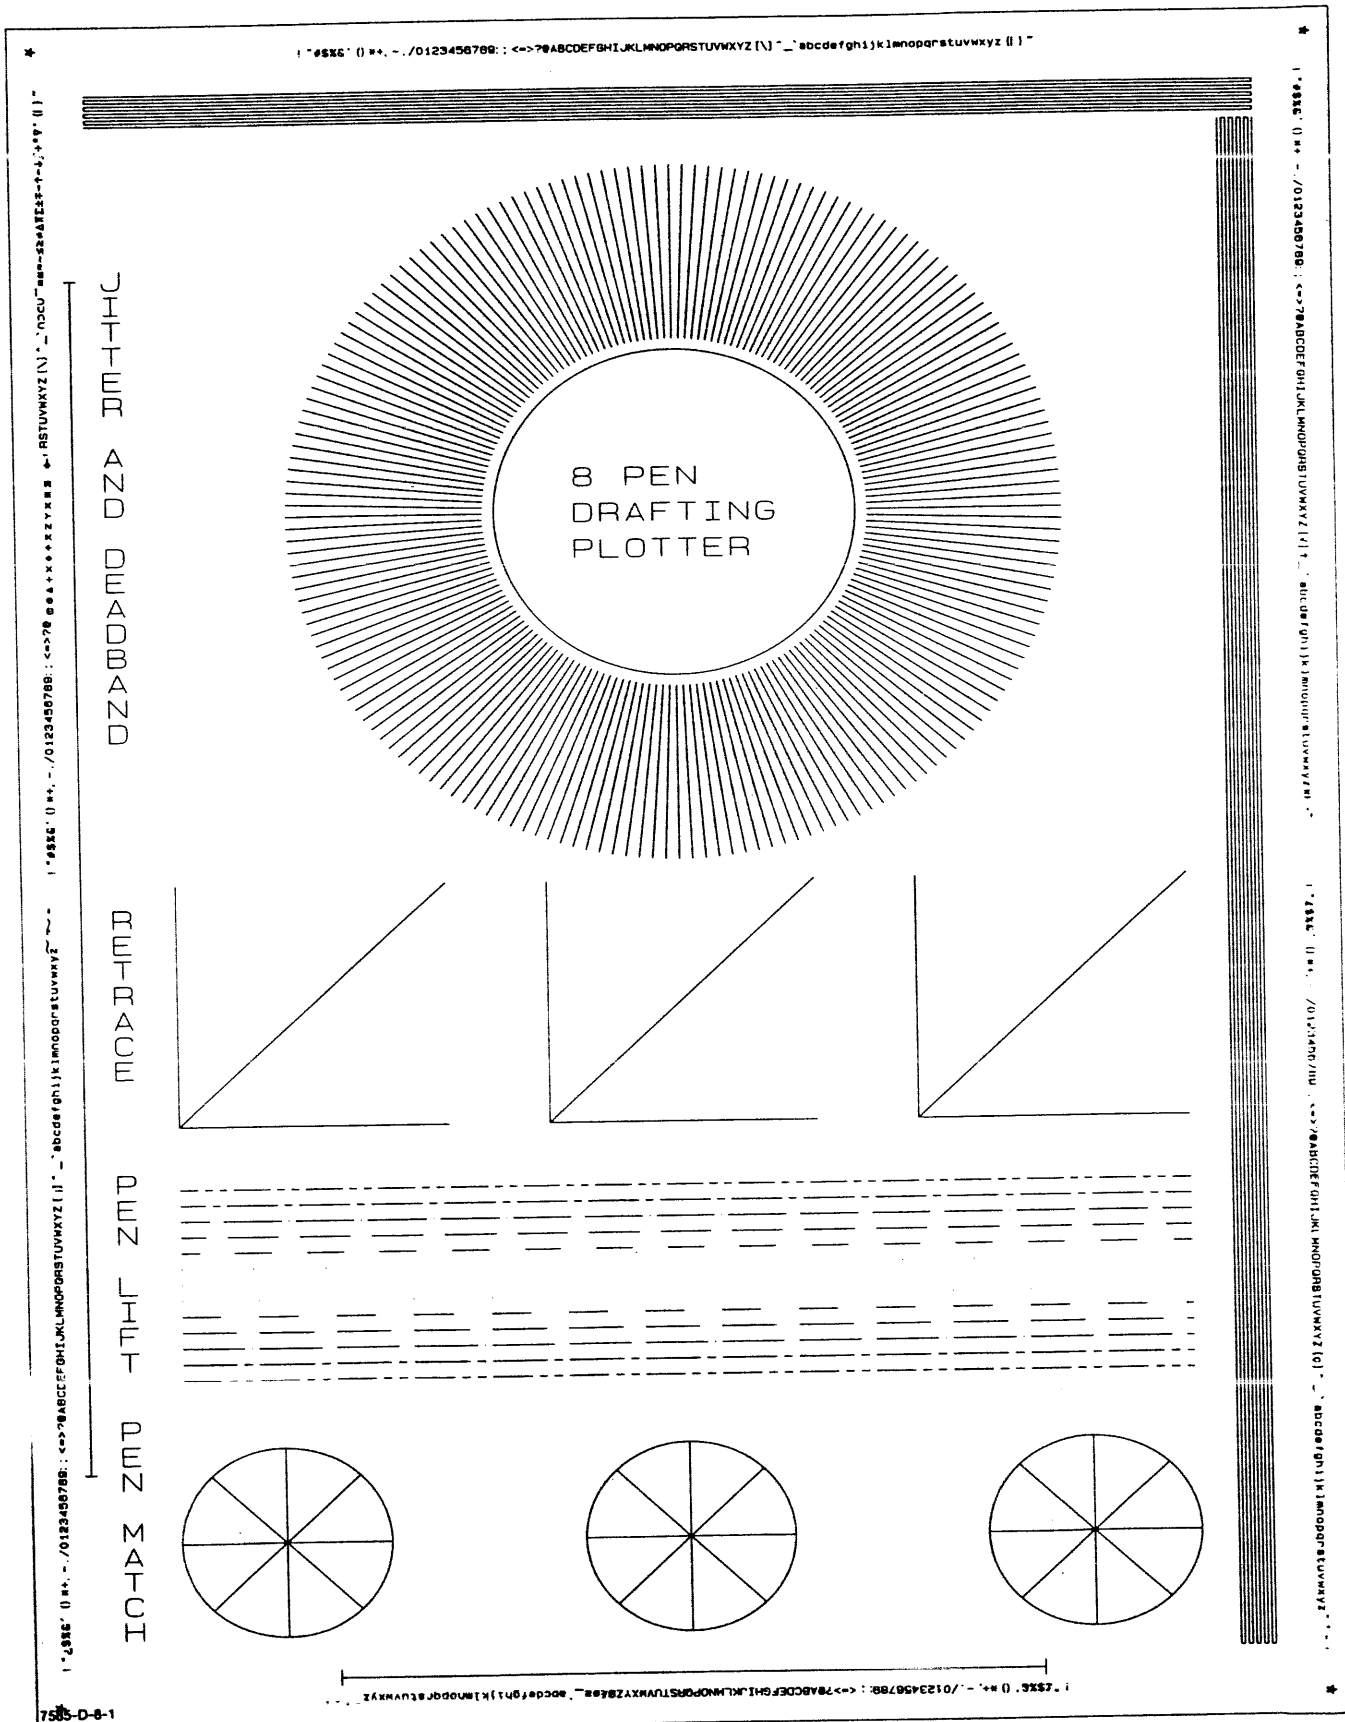

Figure 2-4. Confidence Test Plot
- f. Press the CONFIDENCE TEST switch on the rear panel. The plotter will automatically sense the paper edges and begin the confidence test plot shown in Figure 2-4.
- b. Use an optical comparator and measure the difference between the position of the first set of stars generated in each corner of the plot with the second set of stars drawn over the first set. Repeatability should be within 0.05 mm (0.002 in.) See Figure 2-4.